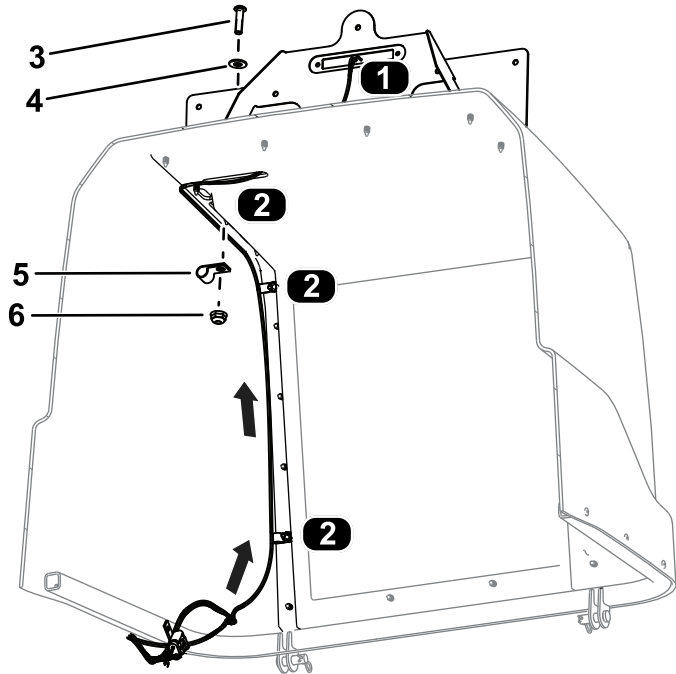

Figure 32
- Route the wire-harness connector labeled LICENSE PLATE LIGHT (P14) through the hood and connect it to the license light (Figure 32).
- Secure the wire harness to the hood using 3 hex-socket screws (1/4 x 1 inch), 3 flat washers, 3 clamps, and 3 flange nuts (1/4 inch) as shown in Figure 32.